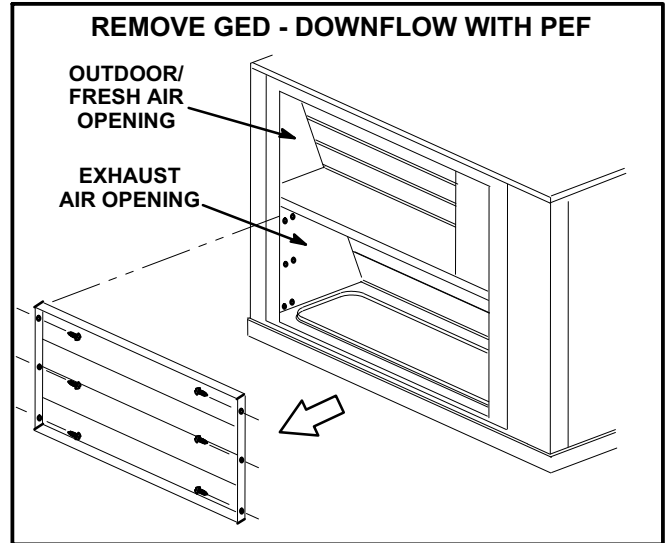

FIGURE 10
- 1- Remove GED from the economizer and install in the fresh / exhaust air hood when optional power exhaust fans are installed. See figure 10.